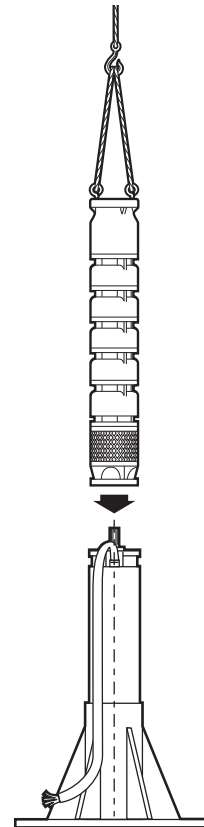

Fig. 5
- using the suitable equipment (mobile crane, hoist, etc.), lift the pump and when perfectly vertical over the motor lower it slowly taking care that the motor shaft enters freely into the pump coupling (fig 5). Safeguard your hands during this operation!